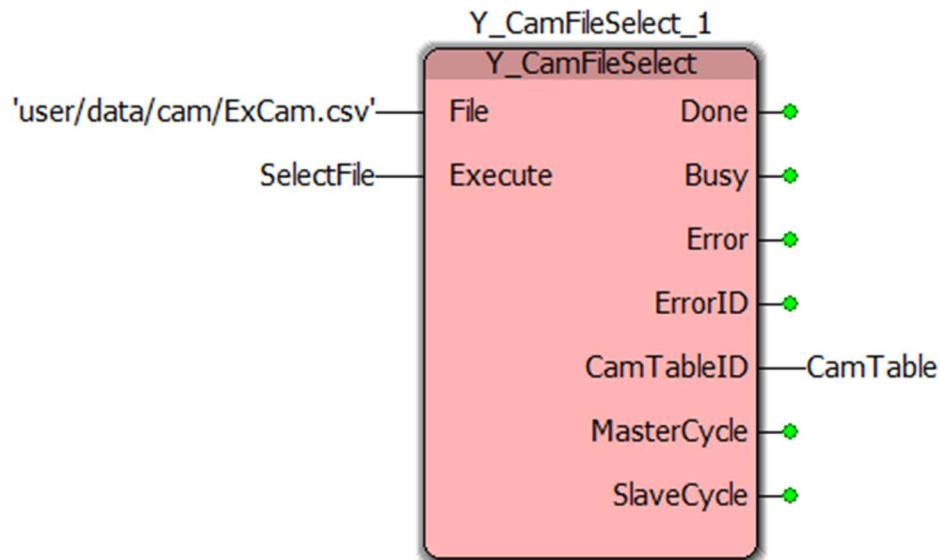

Figure 21: Completed CamFileSelect Block
- The complete block should look like Figure 21.